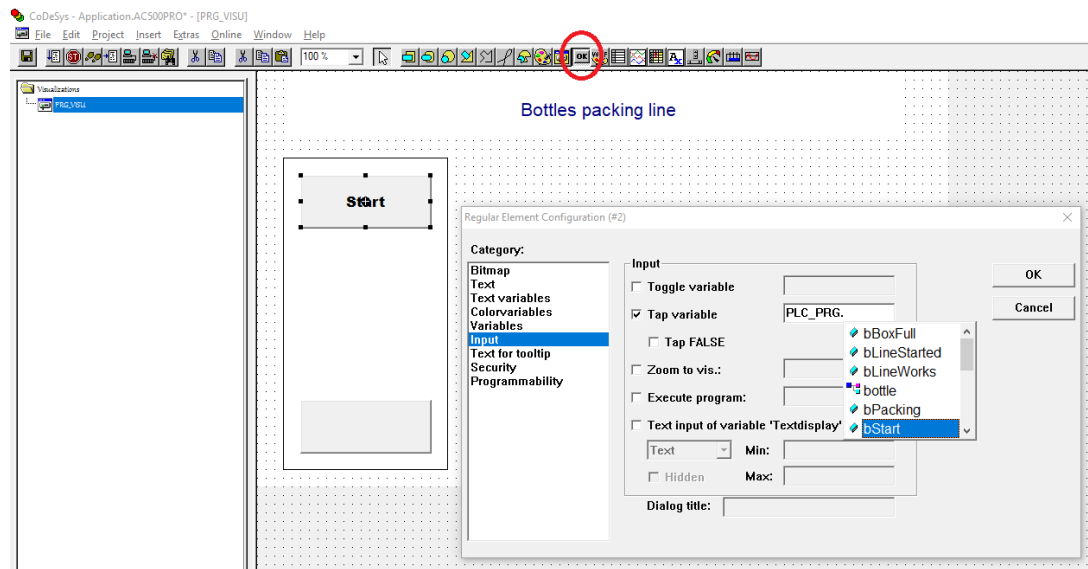

Figure 4: Category Input
- In **Input** Category select Tap Variable (see Fig.4).